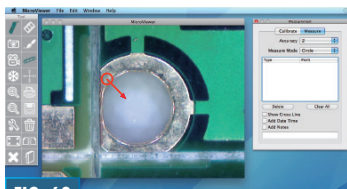

FIG. 69
4. Drag to the opposite edge of the object (Fig. 69).